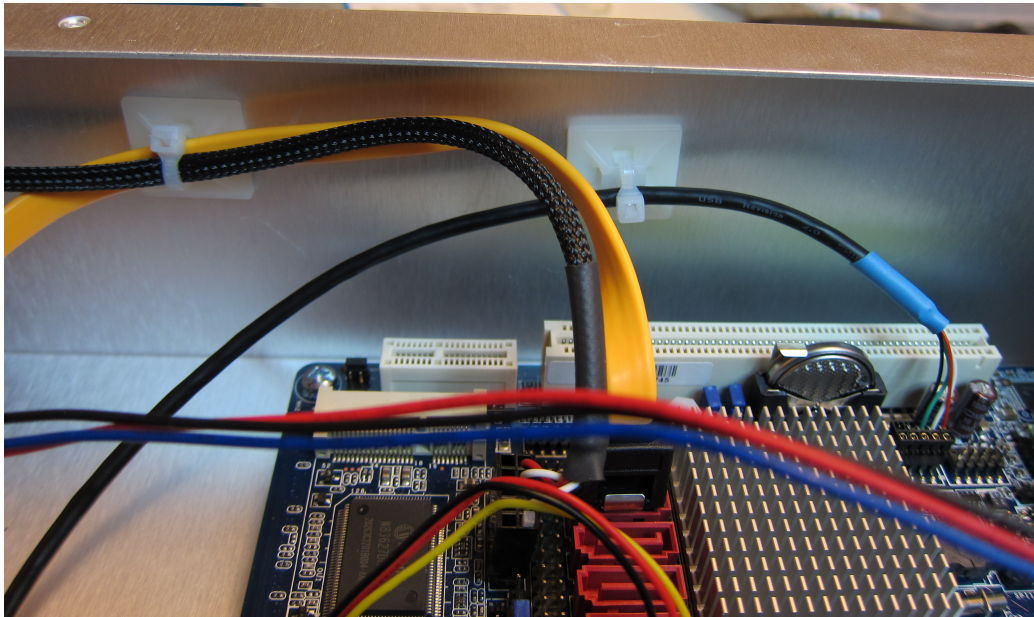

Figure 45: Zip tie retaining USB cable near the motherboard.
14. Install 0.75" square (561-N3588) mount and tie USB cable as shown in Figure 45.